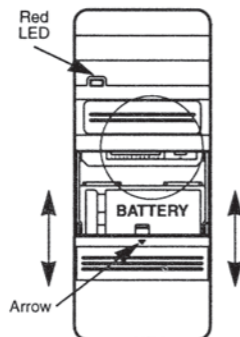

Fig. 1
- Press firmly below arrow and slide cover off (Fig. 1).